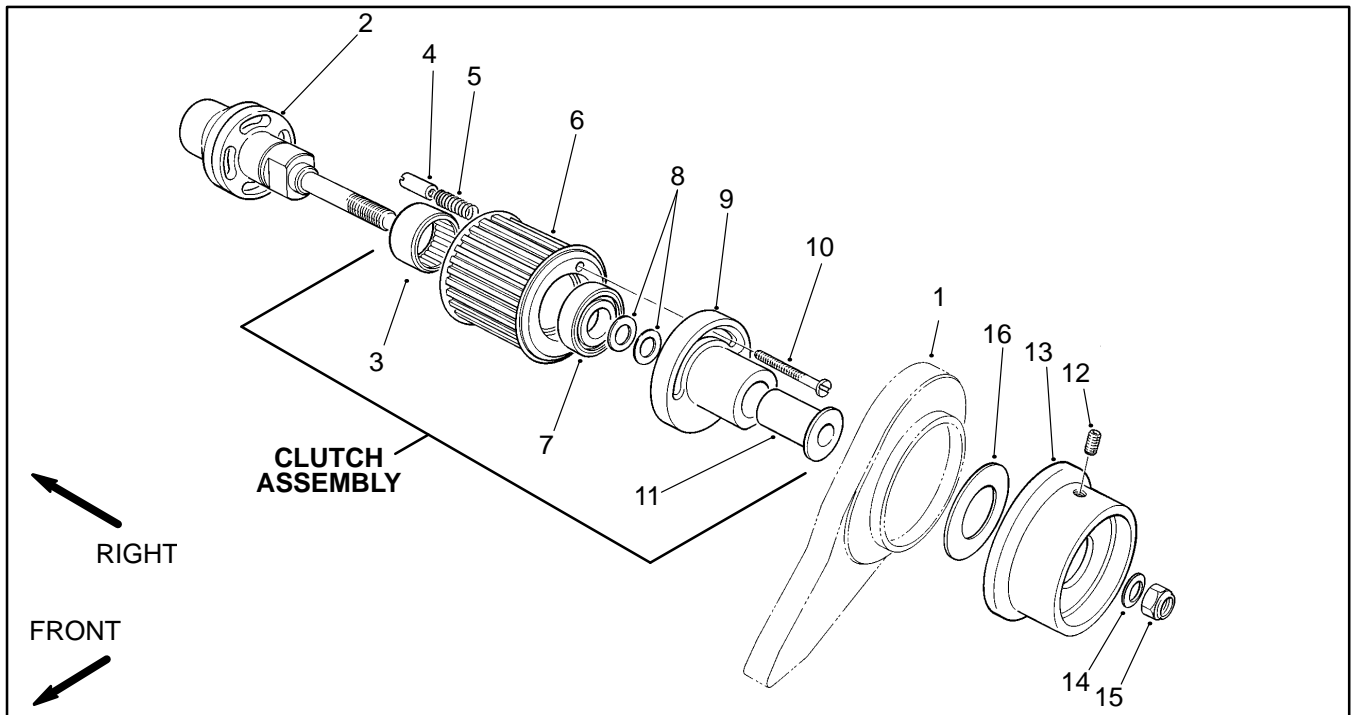
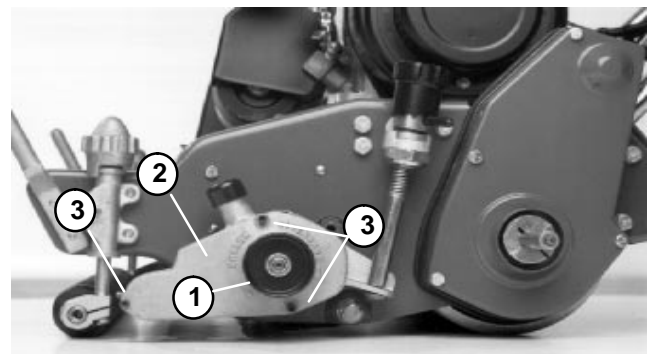

Figure 6
Figure 7
2. Loosen both set screws in the clutch knob. Remove clutch knob and poly washer from the clutch assembly (Fig. 6).
3. Remove three socket head cap screws and washers, then remove belt cover (Fig. 7).
6. Secure belt cover to housing with three socket head cap screws and washers (Fig. 7). Reinstall poly washer and clutch knob to clutch assembly. Tighten both set screws into the clutch knob (Fig. 6).
6. Secure belt cover to housing with three socket head cap screws and lock washers (Fig. 7).
7. Reinstall poly washer and clutch knob to the clutch assembly. Tighten set screws in the clutch knob (Fig. 6).